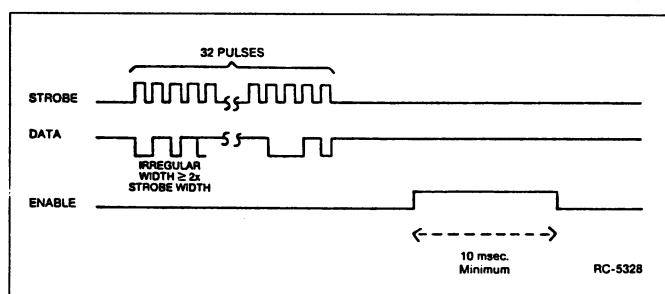

FIGURE 2 - STROBE, DATA AND ENABLE SIGNALS
- g. Verify that the STROBE, DATA and ENABLE signals coming from the Control Unit are at the proper level and the proper duration (refer to Figure 2).